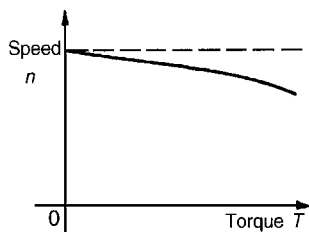

Figure 22.19
- (iii) Since torque is proportional to armature current, (see (i) above), the theoretical speed/torque characteristic is as shown in Fig. 22.19.